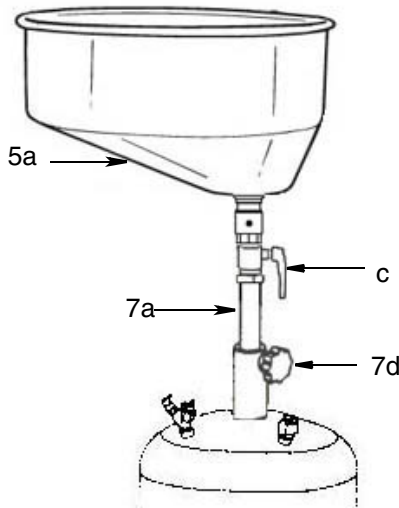

FIG. 14
1. Position the drain bowl (5a) under the car to collect the waste oil (FIG. 14).
2. Loosen knob (7d) to raise or lower the drain bowl (5a) to desired height (FIG. 14). Re-tighten knob.
3. Ensure that the ball valve (c) on the drain tube (7a) is open (red handle is facing down), when collecting used oil (FIG. 14).